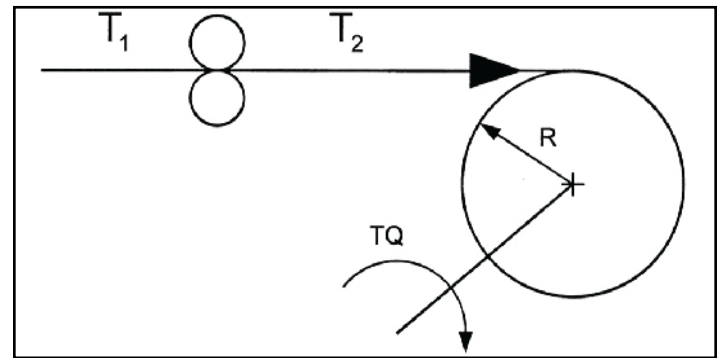

FIGURE 4. Differential shaft as a tension-control device
Air pressure and tension control: Because a differential shaft is a tension-control device, the principles of controlling the tension in the web through a differential shaft are the same as those used to control tension in the web under any other process (see Figure 4). To maintain constant tension (T) in a given application,